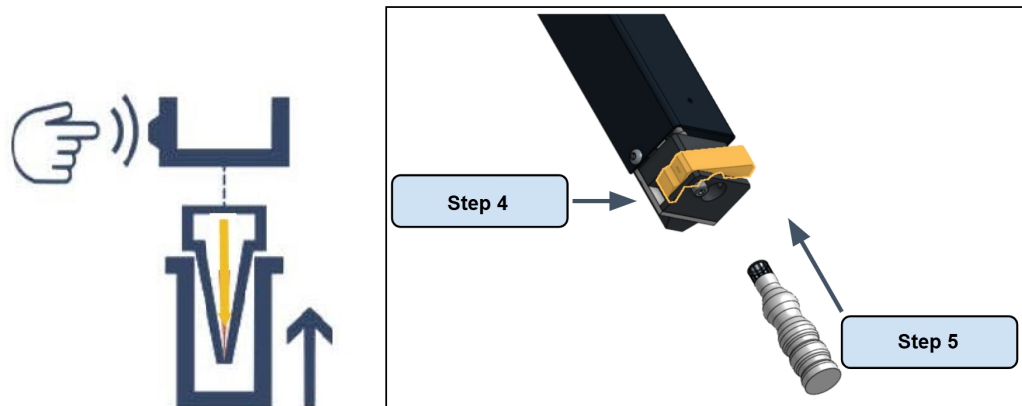

Figure 3.3
- Use a finger to press the lever on the left lower part of the robot head to open the connecting piece before you insert the DispensTip (Figure 3.3).